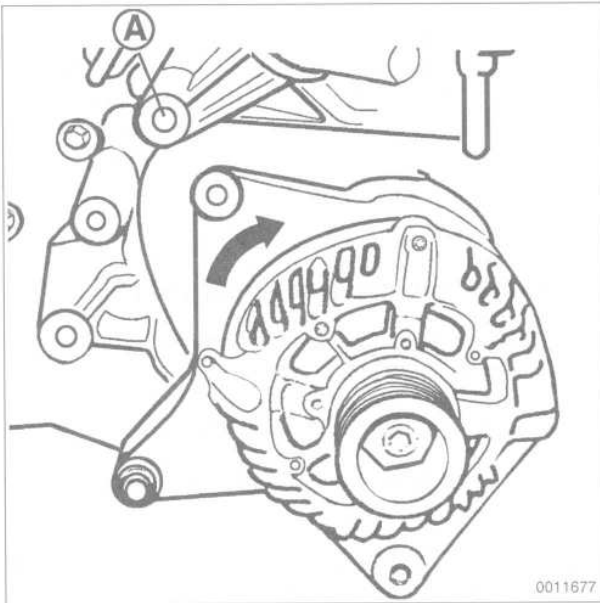

Fig. 5. On M60 engines, remove alternator by pulling oil filter housing (A) forward. Then roll alternator clockwise (arrow) under oil filter housing.
9. On M60 engines, remove coolant pump pulley. Pull oil filter housing forward while rotating upper alternator mounting clockwise and under oil filter housing mounting. See Fig. 5. Rotate alternator forward and then out of engine compartment, using care not to damage radiator.